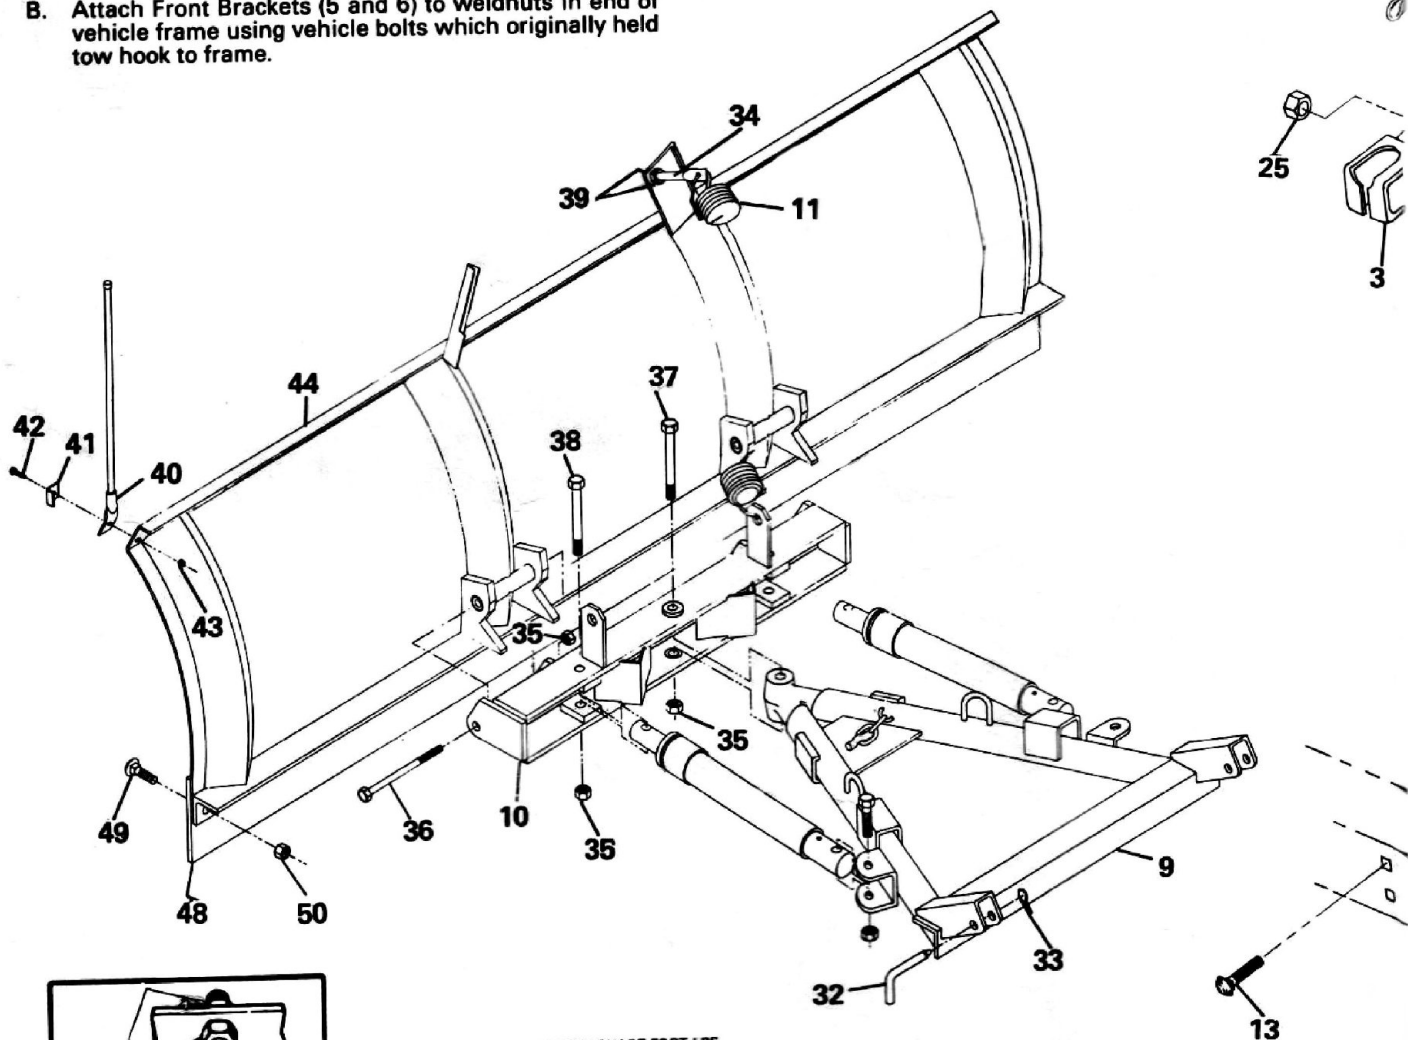

FIGURE 1
L. Attach Trip Springs (11) to Pivot Bar (10) and Moldboard (44) with Eye Bolts (34) and Locknuts (39). Flat End of Eye Bolt (34) must be in a vertical position, as shown in Figure 1, to hinge properly when Moldboard (44) trips. Proper tension is attained when Trip Spring (11) coils begin to separate and then tightening top Locknut (39) four additional turns. Tighten bottom Locknut (39) to secure Eye Bolt (34) in position. See Fig. 1.
M. Assemble A-frame (9) to Pivot Bar (10) using King Bolt (37) and 5/8" Locknut (35). Grease King Bolt (37) prior to installation.
N. Install Power-Angling Rams with fitting end to the A-frame (9) Clevis using 5/8" x 3-1/4" Bolt and 5/8" Locknut. (packed in hardware bag 08363 in Electro-Touch carton) Attach piston end of ram to Pivot Bar (10) using 5/8" x 5" Bolt (38) and 5/8" Locknut (35).
O. Straighten end of Plow Markers (40) so they will be vertical after installation. Attach using 1/4" x 1" Bolt (42), Clamp (41) and 1/4" Locknut (43).
P. Secure the Moldboard-Pivot Bar-A-Frame assembly to vehicle at Clevis on Underframe (4) using Hinge Pins (32) and Spring Clips (33). Attach Lift Chain to Lift Arm (3) allowing sufficient slack to allow Moldboard to follow ground contours.